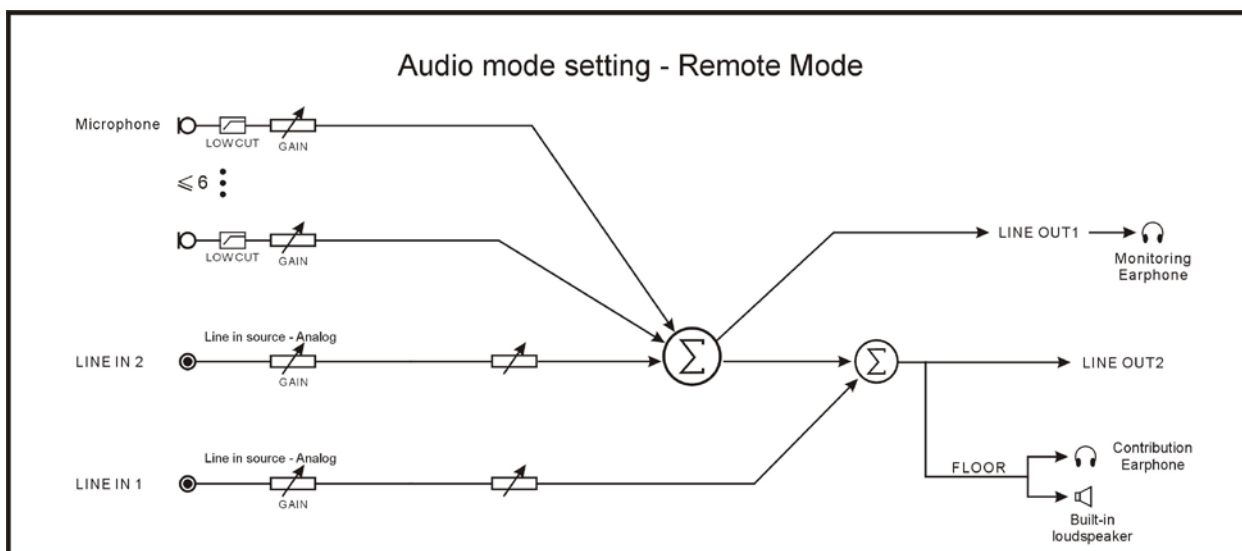

Figure 2.6 Audio mode setting – Remote Mode
- **Remote Mode:** LineIn1 input the remote conference audio signal; LineOut1 output local floor audio (mix output of LineIn2 input signal and active microphone signal), monitoring earphone output the audio signal of LineOut1, LineOut2, loudspeaker and conference unit earphone output floor audio (mix output of LineIn1 input signal, LineIn2 input signal and active microphone signal), as shown in figure 2.6;